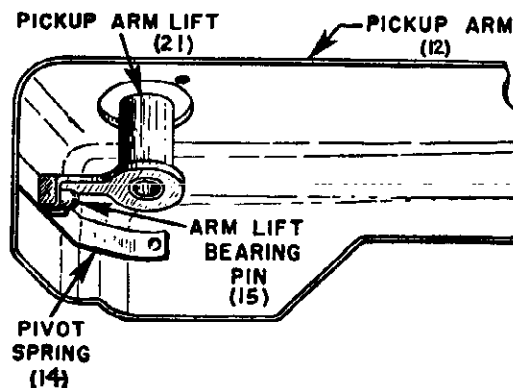

FIGURE 4
- (b) Lift the pickup arm and check to see that the pickup arm lift (21) is positioned properly over arm lift bearing pin (15). (See Fig. 4.)
- (d) Loosen set screw in lift adjusting collar (10).
- (e) Remove slack by pushing up on push-off cam and shaft assembly (36). Do not compress the arm lift shaft spring (36C).
- (f) Using a #6-32 Bristol wrench, place it in the set screw and slide the lift adjusting collar (10) down until it is snug against the pickup arm lift (21).
13. RE-POSITIONING PICKUP ARM SUPPORT ASSEMBLY (23).